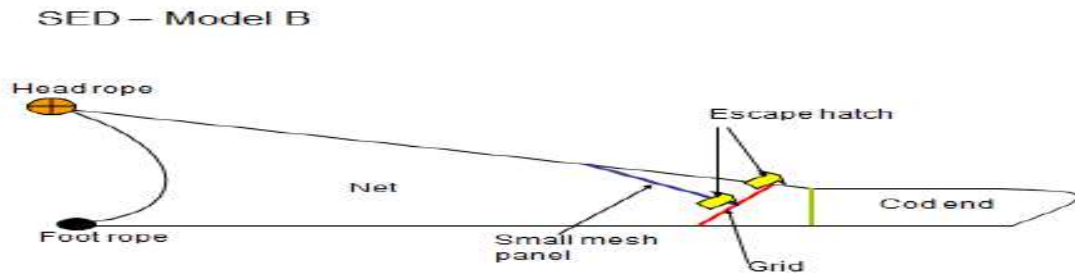

Fig.3. General diagram SED-B
- ii. **SED - Model B:** A small mesh panel is installed to direct the water flow to the lower part of the grid (Fig.3, 4).